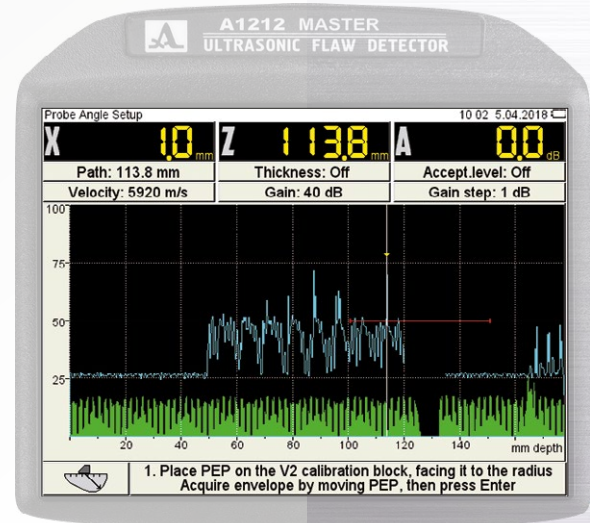

Figure 10
- to determine the delay in the transducer's prism, scan the radial part (R50) of the V2/25 sample on the side of the longer edge (Figure 9); receive the time envelope of the signals (Figure 10) and press the **Enter** key;